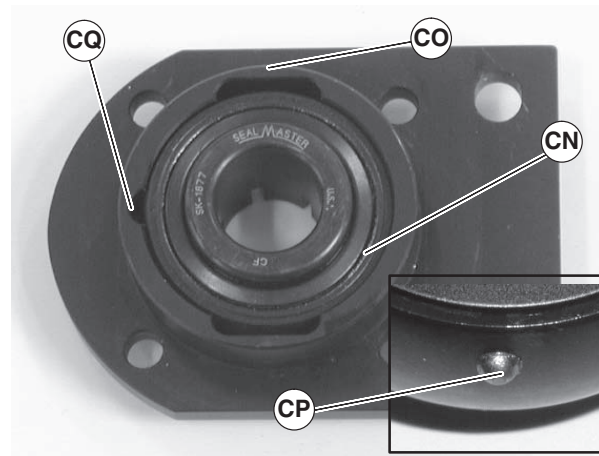

Figure 88
2. Insert bearing (Figure 88, item CN) into housing slot (CO). Locate anti-rotation nub (CP) to align with slot (CQ), and twist bearing into housing.